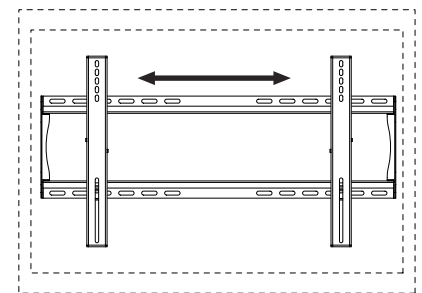

fig 3.2
Screen Adjustment: Screen can be adjusted horizontally by loosening security screw three full turns using allen wrench (L). Adjust screen as shown in figure 3.2. Tighten security screw.